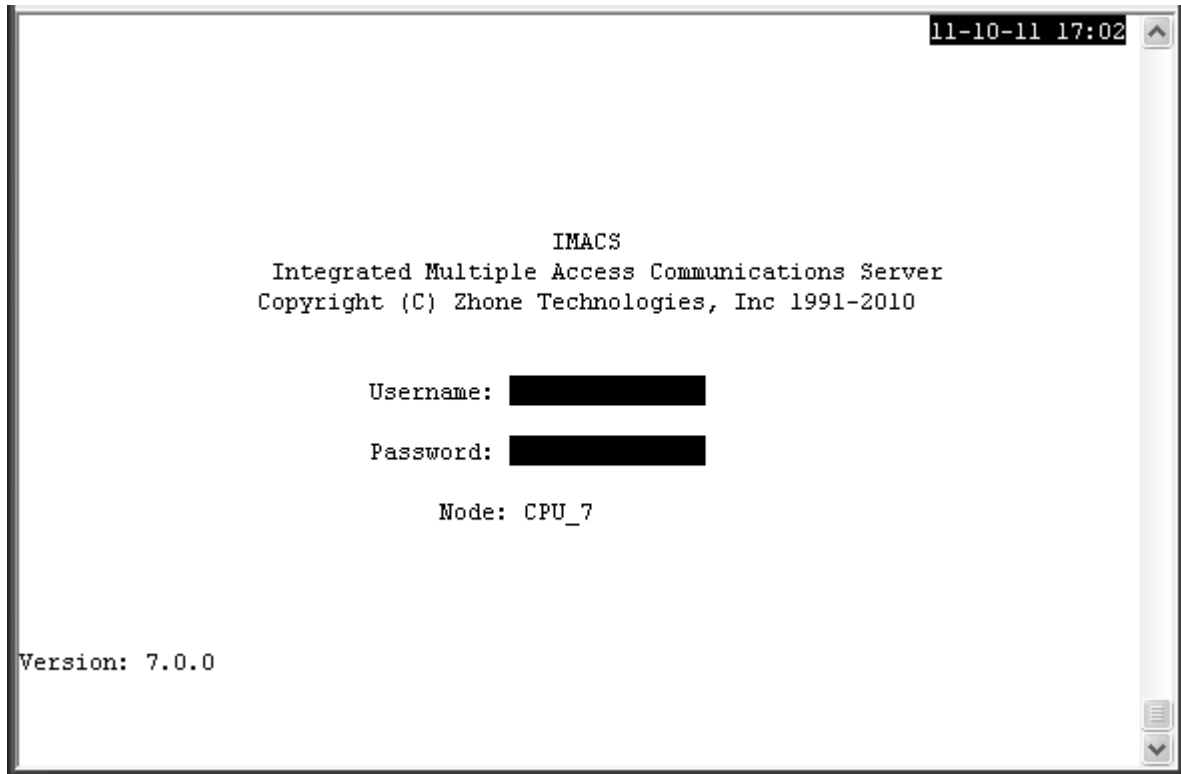

Figure 5-2. First Time Login Screen
6. Enter password as shown in Figure 5-2. Refer to Table 5-2 on page 5-11 for default passwords and access level, press the <Enter> key.